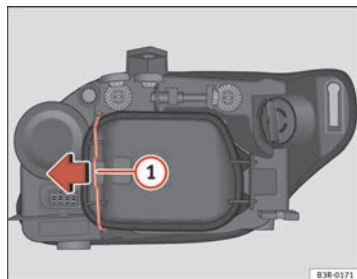

Fig. 196 Side light bulb (outside of vehicle)
- Move the brace ⇒ **fig. 196 ①** in the direction of the arrow and remove the rigid cover, separating the brace side and then removing the two tabs from the other end of the cover.